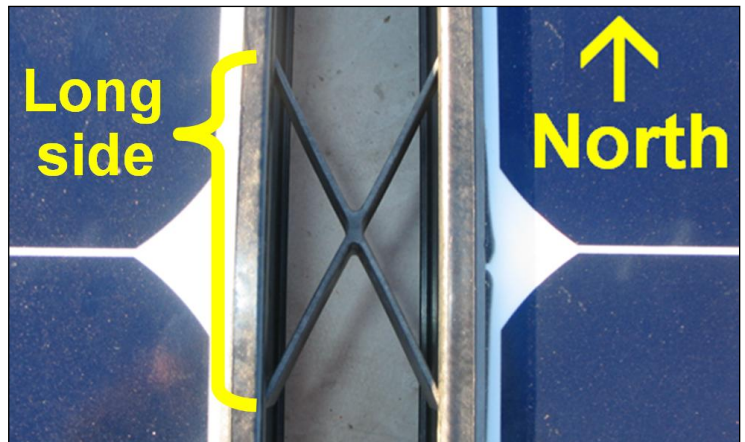

Fig. 75
- In “portrait” position: longer side situated E–W (Fig. 75).